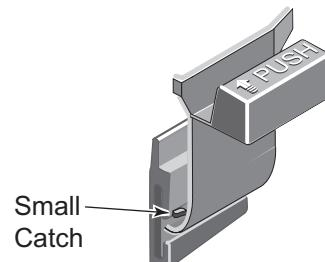

Figure 7 – Safety Latch
### SAFETY LATCH (See Figure 7)
- Press down on the small catch behind the safety latch and press or tap the latch out of the "Tee" slot in the tank (see Figure 7).
## SAFETY LATCH (See Figure 7)
1. Press down on the small catch behind the safety latch and press or tap the latch out of the "Tee" slot in the tank (see Figure 7).